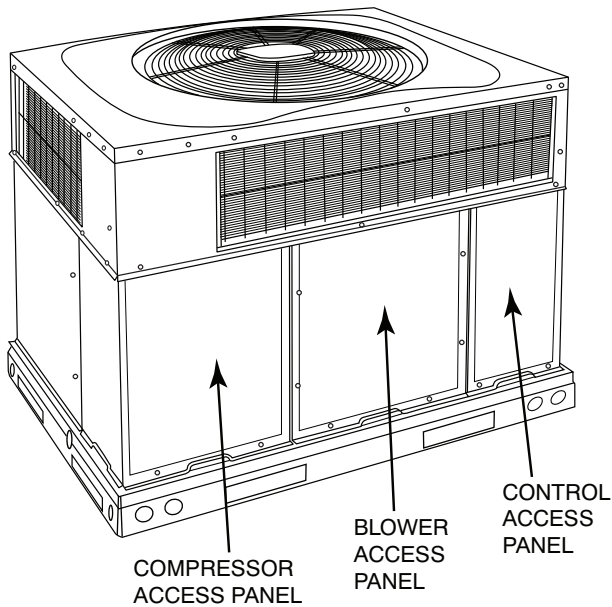

Fig. 21 - Unit Access Panels
- a. Remove blower access panel (see Fig. 21).
- g. Reinstall blower access panel (see Fig. 21).
1. Remove control access panel (See Fig. 21).
Remove blower access panel (see Fig. 21). Limit switch(es) are located on the fan partition.
3. Remove control access panel (See Fig. 21).
Remove access panels (see Fig. 21) to locate all the electrical controls and wiring. Check all electrical connections for tightness. Tighten all screw connections. If any smoky or burned connections are noticed, disassemble the connection, clean all the parts, re-strip the wire end and reassemble the connection properly and securely.